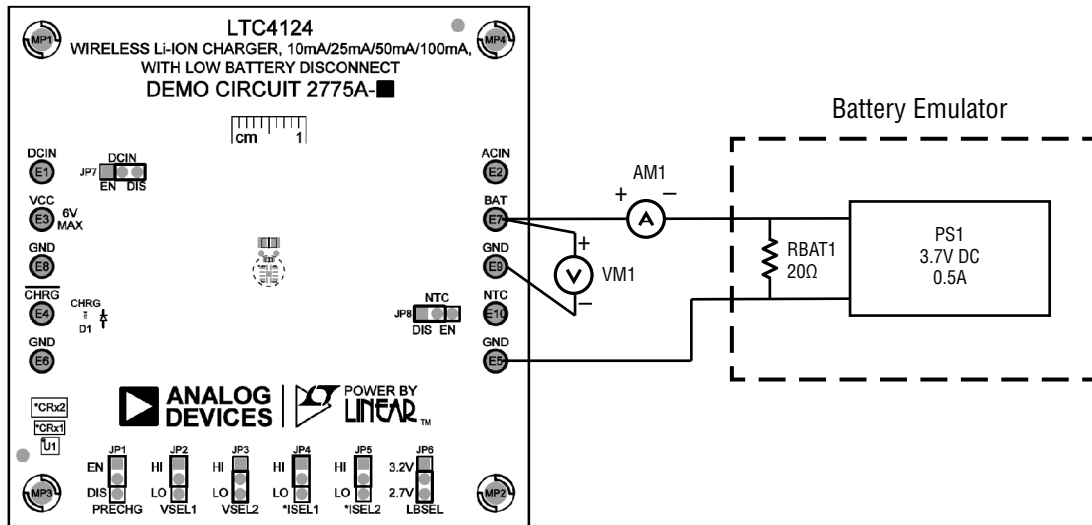

Figure 4. DC2775A-D Top
3. Connect a voltage source PS1 and a 20 Ohm resistor RBAT1 between the BAT and GND turrets of DC2775A-D, respectively (Figure 4). PS1 and RBAT1 make up the battery emulator. Typical power supplies cannot sink current. By adding a resistor across the power supply inputs that draws more current than the maximum battery charging current, the power supply